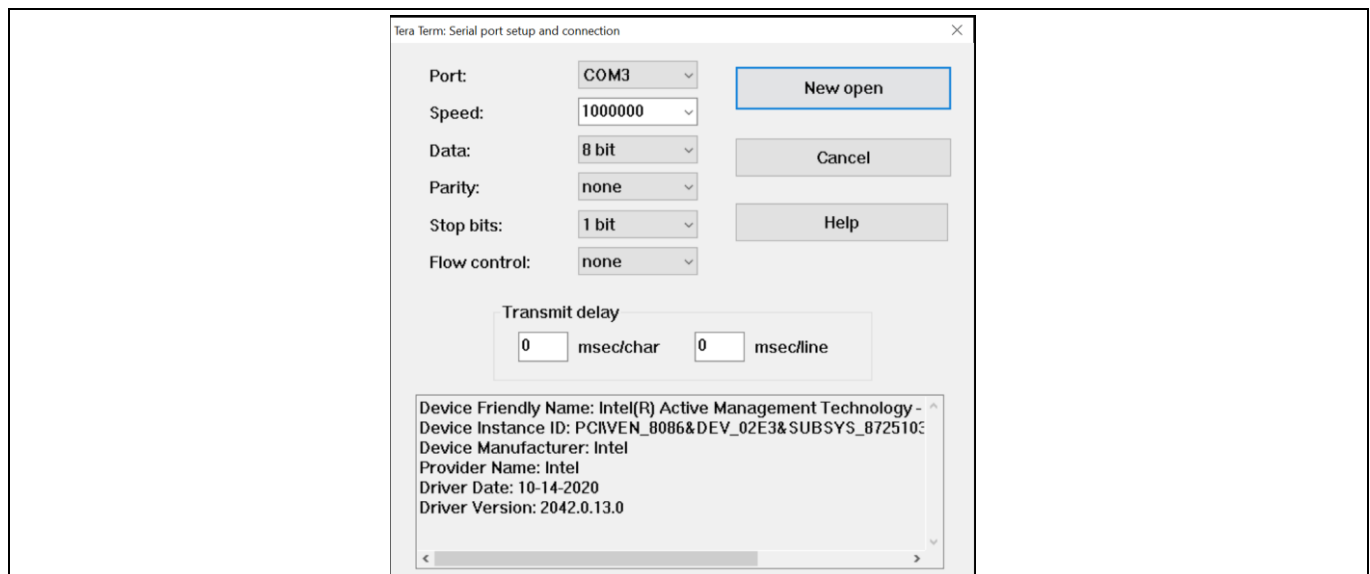

Figure 16 Tera Term settings
b) Set the baud rate to 1000000. Set the remaining settings as default, as shown in **Figure 16**.